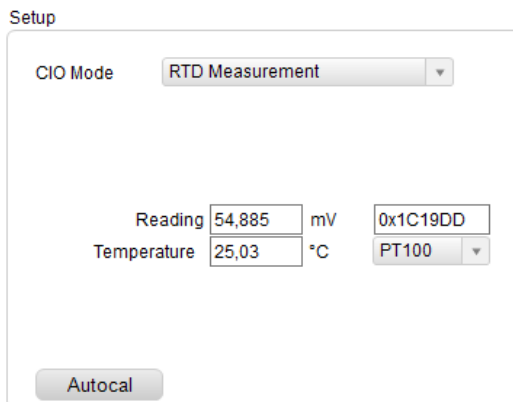

Figure 20. Close up of RTD measurement.
29. The GUI will display the voltage as well as the calculated temperature (**Figure 20**). The drop-down menu allows the user to select between PT100 and PT1000 sensors.